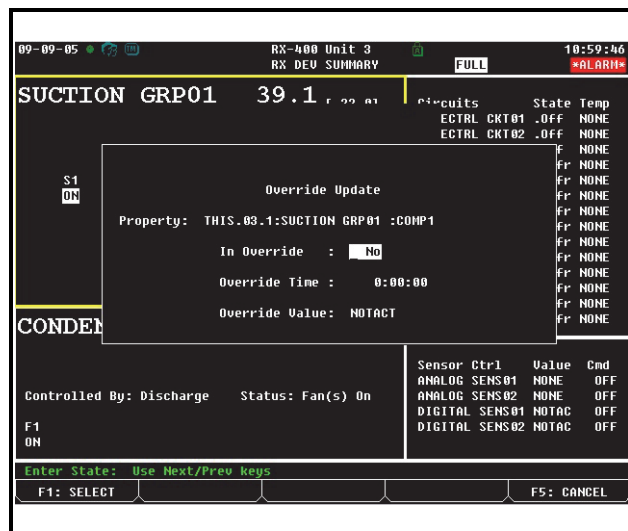

Figure 12-16 - Override Update Screen (RX Version Shown)
2. The Override Update screen appears (see **Figure 12-16**). Press the **Prev** or **Next** to enter **Yes** to place the stage in override. Scroll down one space to enter the **Override Time**.